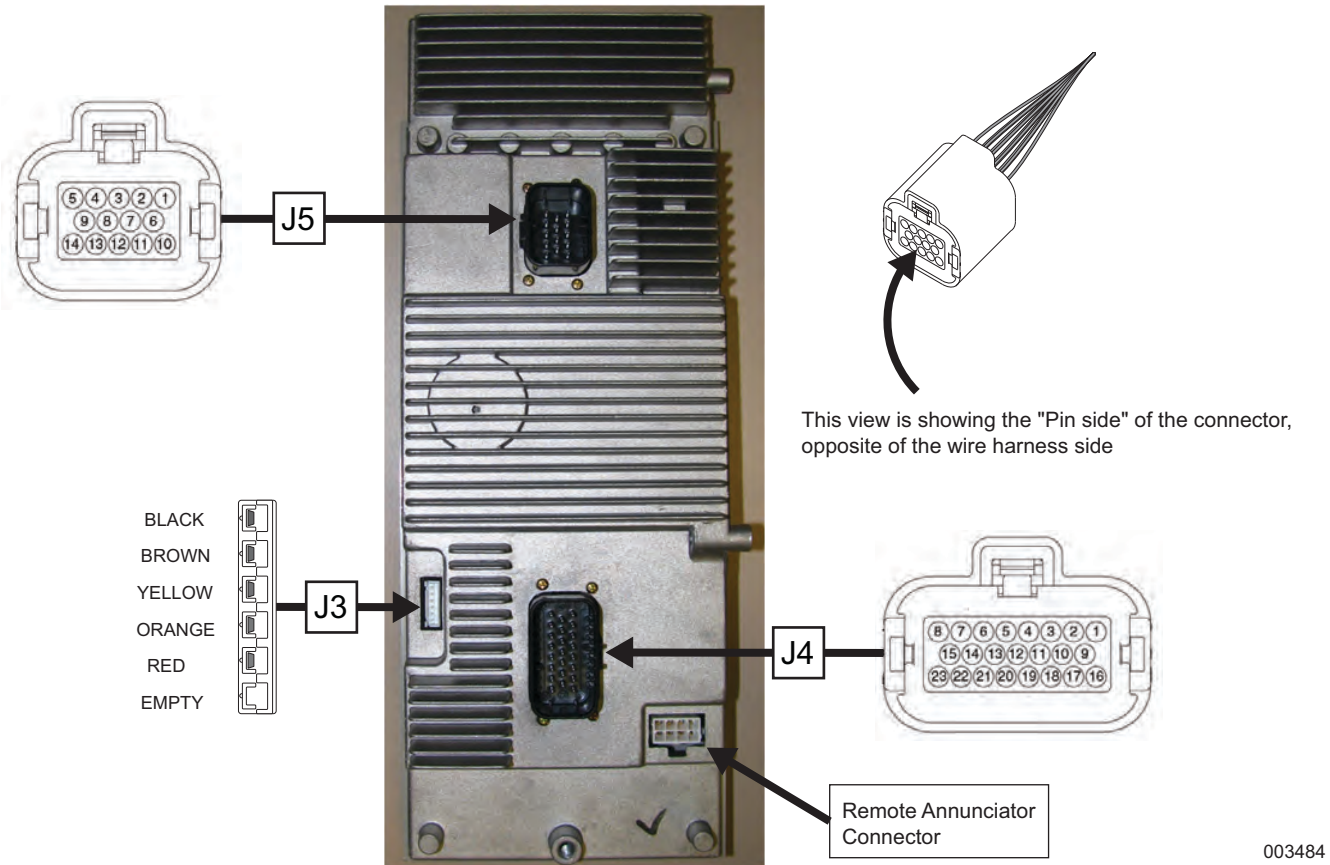

Figure A-7. Nexus Air-cooled Panel Part Number 0H6680 (A) or (B), and Connectors (Harness End)
See **Figure A-7** – Nexus Air-cooled Panel part number 0H6680 (A) or (B) has two Amp-Seal style connectors on the back (J4 & J5), one actuator connector (J3), and a connector socket for the remote wireless annunciator (optional accessory).